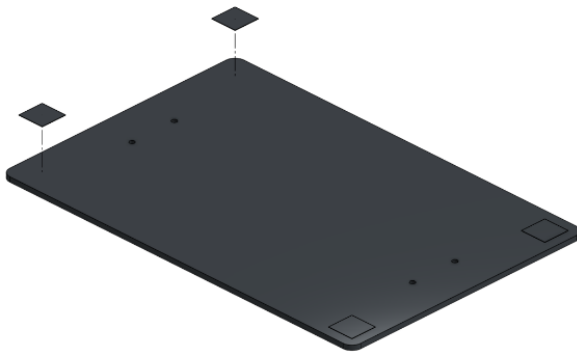

Figure 1
1. Adhere (1) rubber pad to the bottom of the base plate in each corner to prevent the partition from sliding around when in use as shown in Figure 1.